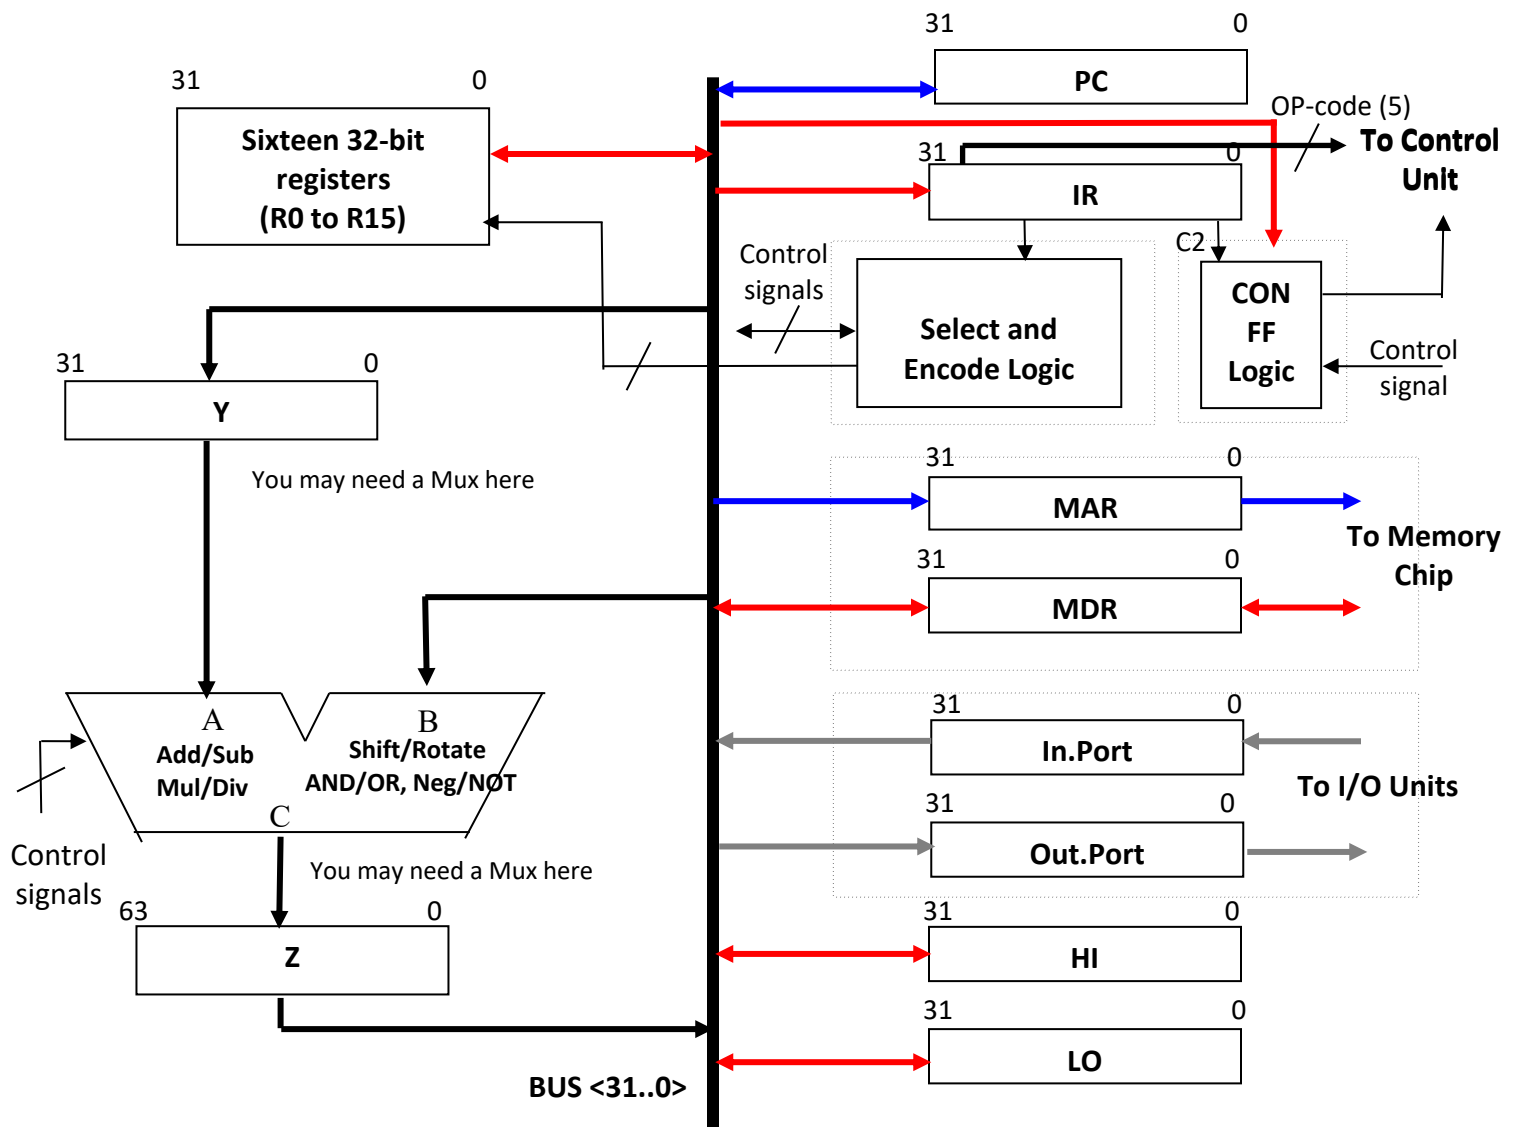
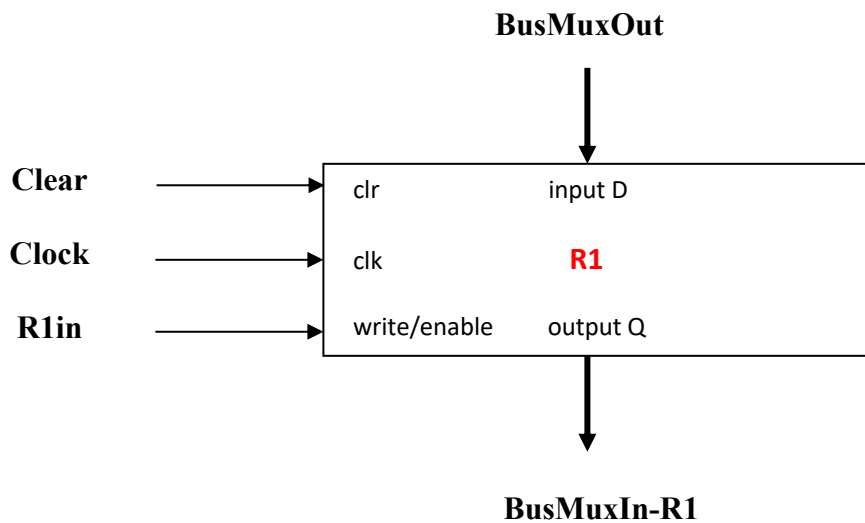
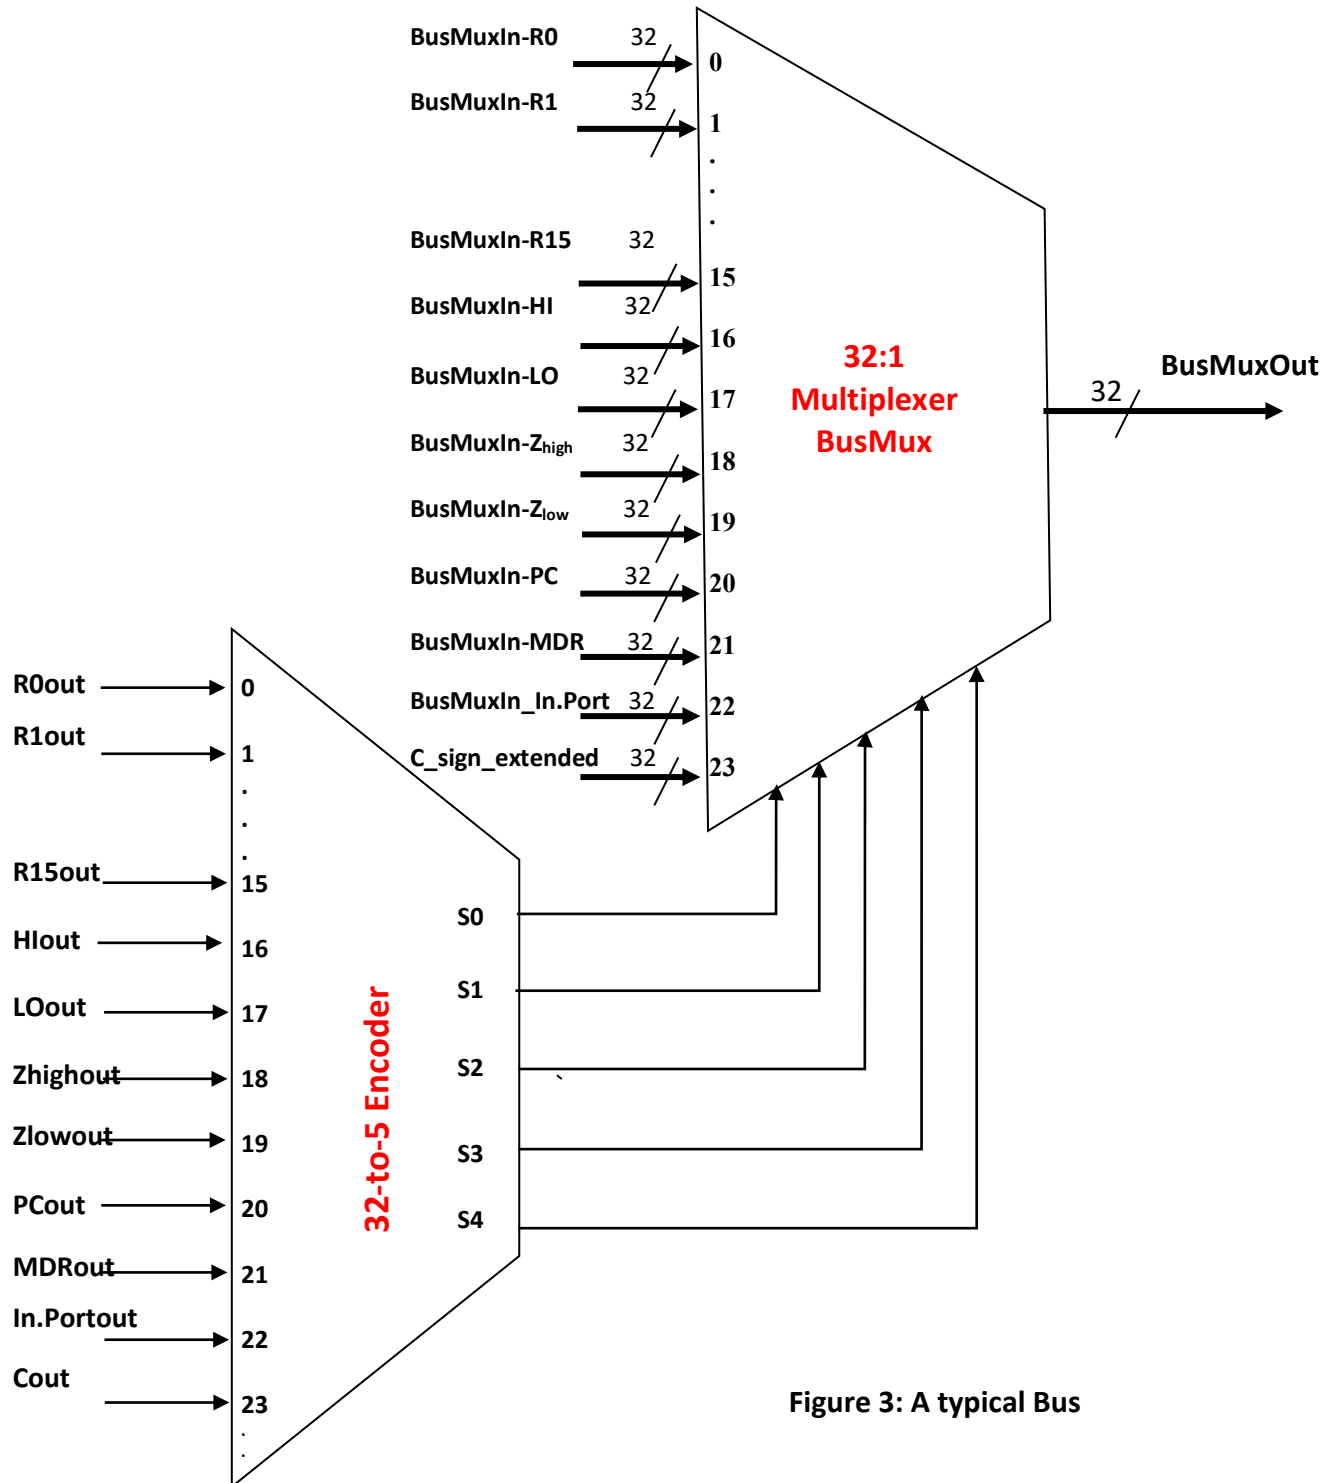

Figure 1: Simplified datapath
Figure 2: A typical register
Figure 3: A typical Bus
The objective of this project is to design, simulate, implement, and verify a simple RISC Computer (Mini SRC), consisting of a simple RISC processor, memory, and I/O. Phase 1 of this project consists of the design and Functional Simulation of a part of the Mini SRC datapath. In this Phase, you will design the necessary logic and simulate the *add*, *sub*, *mul*, *div*, *and*, *or*, *shr*, *shra*, *shl*, *ror*, *rol*, *neg*, and *not* instructions. The “Select and Encode” logic, “CON FF” Logic, “Input/Output” ports, “Memory Subsystem” and load/store instructions, branch and jump instructions, as well as *addi*, *andi*, and *ori* instructions will be designed and simulated in Phase 2. Instruction decoding will be done in Phase 3. The complete datapath is shown in Figure 1.
2.1 DataPath: Figure 1 illustrates a simplified single-bus Datapath for the Mini SRC (see Figure 4.2 on page 143 and Figure 4.3 on page 148 of the Lab Reader). As shown in Figure 1, the datapath consists of a 32-bit bus, BUS. The bus is responsible for transferring the information among different components of the system. There can be only one transaction at a time on the bus. There are sixteen 32-bit registers *R0* through *R15* in the Mini SRC, as discussed in the CPU Specification document. There are also two dedicated 32-bit registers *HI* and *LO* for holding the result of a multiplication or a division operation. The 32-bit *Instruction Register*, *IR*, holds the current instruction. The 32-bit *Program Counter*, *PC*, points to the address of the next instruction after the execution of the current instruction. *PC* is incremented by 1 during the instruction fetch, using *IncPC* control signal in the ALU. You may opt for a hardware incrementer for *PC* outside ALU. In general, you are welcome to come up with your own ideas and design decisions during the entire CPU design project.
A Typical Register: Figure 2 shows the block diagram for a typical register, such as *R1* (there will be a minor revision to *R0* circuitry that we will discuss in Phase 2 when we design the “Select and Encode Logic”). The input to the register, **BusMuxOut**, is coming directly from the bus. The contents of the bus is saved onto the register using the synchronous *Clock* signal and the *R1in* signal. The *R1in* signal is the control signal that allows the data from the bus to be written into the register *R1*. The *R1out* signal is the control signal that allows the contents of *R1* to be placed on the bus, through the **BusMuxIn-R1** input (see Figure 3). The *Clear* signal is used to reset the registers to a known state.
Bus design: One of the important aspects of the Mini SRC datapath is its bus. The Bus may be implemented by a multiplexer and an encoder, tri-state buffers, or other techniques. Figure 3 shows a typical bus design using the multiplexer/encoder approach. The Mini SRC Bus is implemented using a 32:1 Multiplexer, **BusMux**, with five select input signals coming from a 32-to-5 encoder. The idea is to choose only one of the registers *R0* to *R15*, *HI*, *LO*, *Z_{high}*, *Z_{low}*, *PC*, *MDR*, *In.Port*, or the sign-extended version of the constant *C*, as the source of the bus. The output of the BusMux is **BusMuxOut**. The inputs to the 32-to-5 encoder, which could select any of the above registers, are the control signals generated by the Control Unit (in Phase 3) or by the
Design the datapath shown in Figure 1 (except for the “Select and Encode Logic”, “CON FF Logic”, “Memory chip in the Memory Subsystem”, and “Input/Output ports” units) using an all HDL (Verilog or VHDL) in Quartus Prime design software. You are highly advised to follow the general steps below, and those mentioned in the CPU Design Project Tutorial, when designing and implementing your datapath. **You are also advised to functionally simulate your design, as you go through the different design steps, to check if it works properly.**
1. Design the registers R0 to R15, PC, IR, Y, Z, MAR, HI, and LO (see Figure 1 and Figure 2).
2. Design the bidirectional Bus (Figure 3) and connect (a few of) the registers that you designed in Step 1 to the Bus. Functionally simulate your design and check if data transfer is done properly between the registers over the bus.